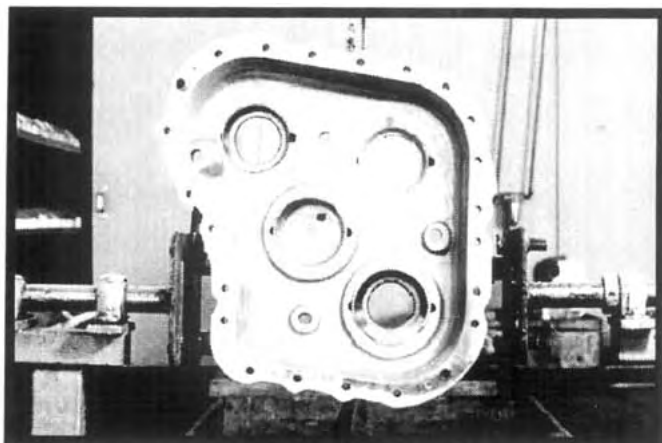

Figure 6.29
5. Install the (4) bearing cups into the inside of the front housing half. See Figure 6.29.